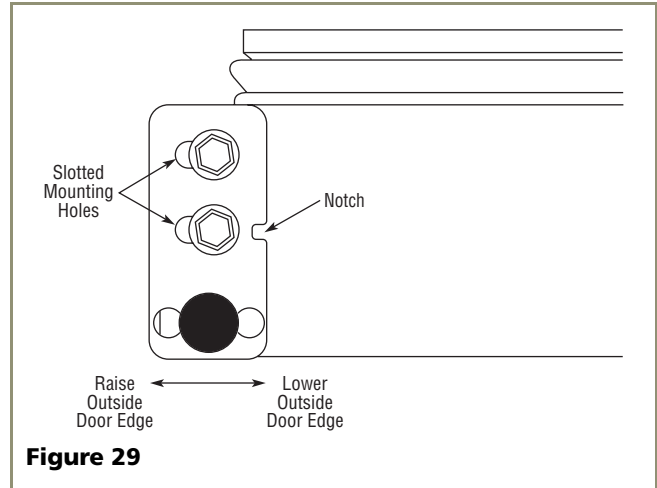

Figure 29
3. See **Figure 29**. If the top far edge of the door needs to move UP, move the hinge plate toward the outside of the door and retighten screws. If the top far edge of the door needs to move DOWN, move the hinge plate toward the inside of the door and retighten screws.